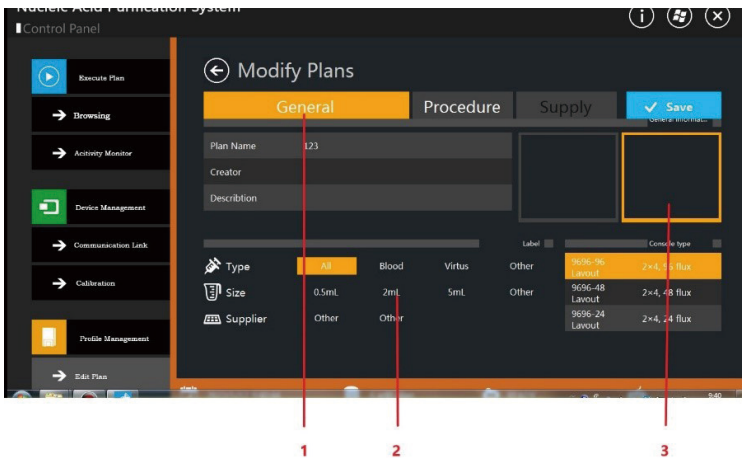

Figure 13. User Interface of Editing Basic Information of Execution Plan
Click the "Basic Information" label in the execution plan editing interface to display the basic information of the execution plan, as shown in Figure 13. The basic information of the execution plan includes text information, instrument category information, laboratory cabin layout information and label information.
- ① in Figure 13 represents the text information of the basic information of the execution plan. The text information includes "Plan Name", "Creator" and "Description Information". In the text information, the plan name is mandatory, and the rest of the text information is optional.
- ② in Figure 13 represents the label information of the execution plan, which is optional. If users do not set the label information, the execution plan will not be affected.
- ③ in Figure 13 represents the instrument category of the execution plan, which can be set by default without modification.
When setting the instrument category shown in ③ in Figure 13, the experimental process information saved before the execution plan will be cleared. Therefore, before changing these two information, the system will pop up a confirmation dialog box for the user to confirm. As a result, when editing an execution plan, set these two types of information first, and consider carefully before making changes.